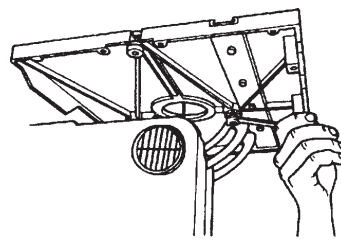

Figure A-20
3. Use a 1/2" wrench to securely tighten the four bolts (35) attaching the table to the Bandsaw. See Fig. A-20. It is easier to tighten the front two bolts, then tilt the table 15 degrees-25 degrees to tighten the remaining two bolts. After tightening, reset the table at 0 degree and lock the trunnion.